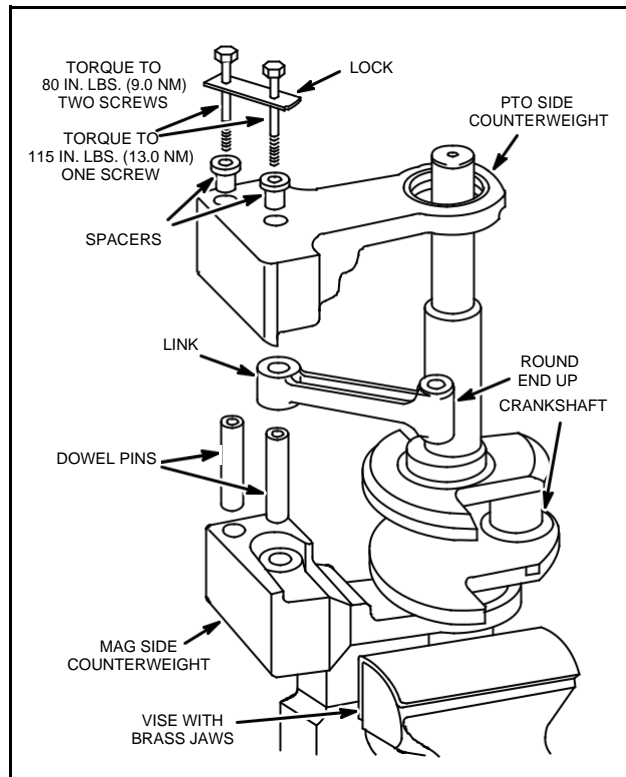

Fig. 191 - ASSEMBLING COUNTERWEIGHT TO CRANKSHAFT
2. Slide flywheel side counterweight onto crankshaft, Fig. 191.
4. Install dowel pin(s). Slip link over dowel pin with rounded edge of free end up, Fig. 191.